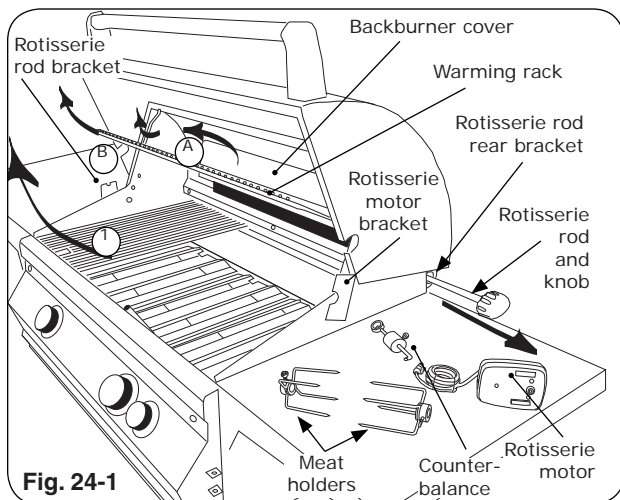
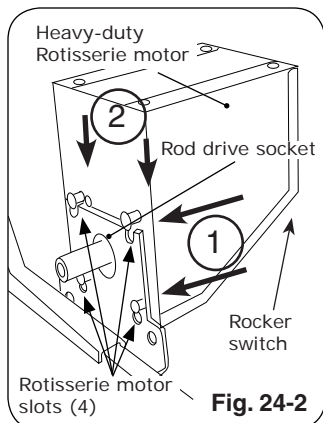
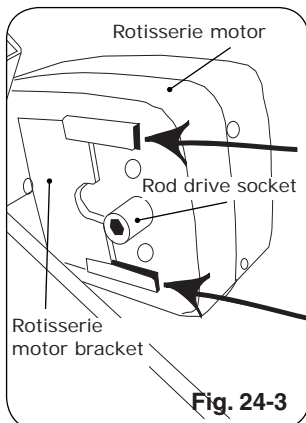

Fig. 24-1
Fig. 24-2
Fig. 24-3
2. Slide rotisserie motor fully onto motor bracket (right side, Fig. 24-1, Fig. 24-2 and Fig. 24-3).
3. Remove rotisserie rod from rear bracket (Fig. 24-1) and attach knob if necessary.